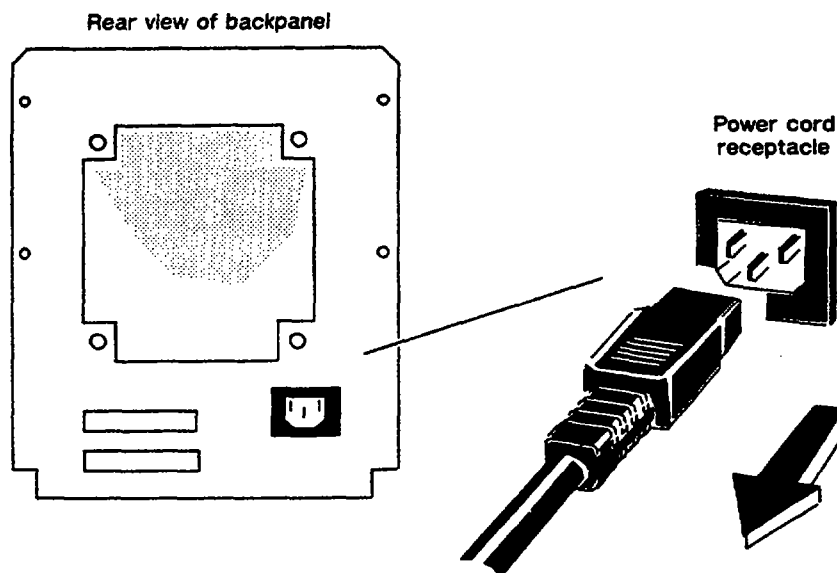

Figure 4-12 Removing the Power Cord
2. With the PHU turned off, unplug the power cord from the installation site's power outlet and from the receptacle on the back of the subsystem, as shown in Figure 4-12.